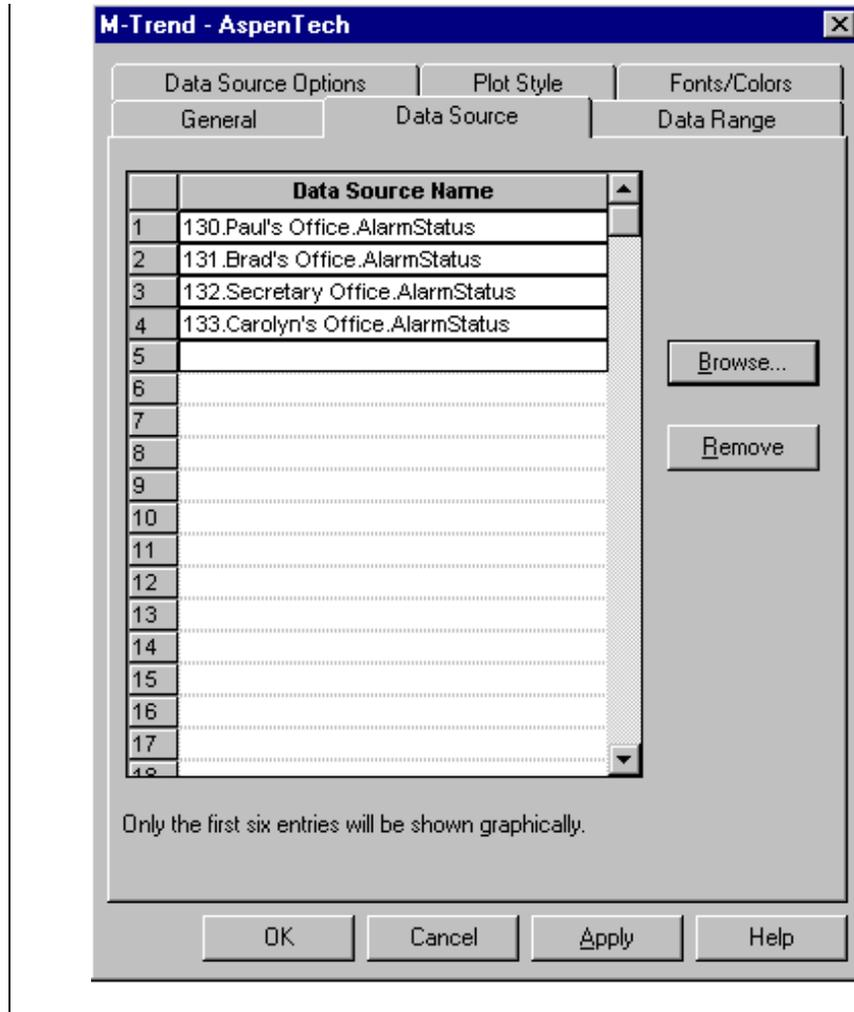

Figure 5-3: M-Trend Definition Dialog Box: Data Source Tab
2. Select the Data Source tab. Figure 5-3 shows a Data Source tab with several Data Source Names.
5. Click Done to return to the M-Trend Definition screen (Figure 5-3).